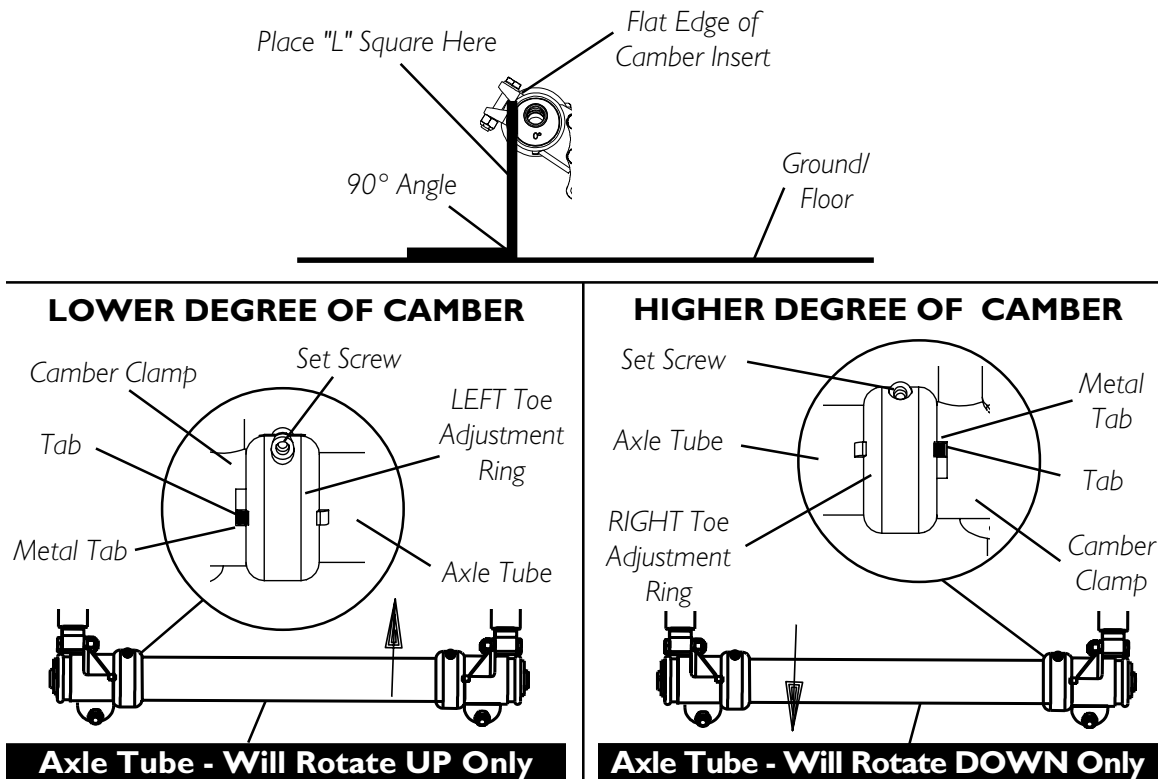

FIGURE 18 - ADJUSTING THE AXLE TUBE - A4 CAMBER SYSTEM
A4 CAMBER SYSTEM (FIGURE 18)
2. Loosen the set screw that secures each toe adjustment ring to the axle tube (FIGURE 18).
3. Using an "L" square, rotate the axle tube until the flat edge of the camber insert is at a 90° angle with the ground/floor as shown in FIGURE 18.
8. Perform one (1) of the following: